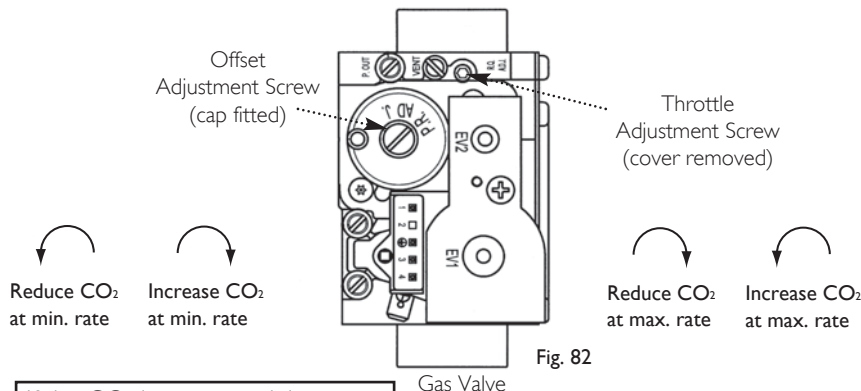

Fig. 82
8. It is possible to alter the CO2 by adjustment of the gas valve. Remove the plastic cover from the Throttle Adjustment Screw. At maximum rate the Throttle Adjustment Screw should be turned, using a suitable hexagon key, until the correct reading is obtained (Fig. 82). Turning clockwise will reduce the CO2. Anticlockwise will increase the CO2.
10. With the boiler on minimum, the Offset Adjustment Screw must be altered, using a suitable hexagon key, after removing the cap (Fig. 82). Turning anti-clockwise will reduce the CO2. Clockwise will increase the CO2.